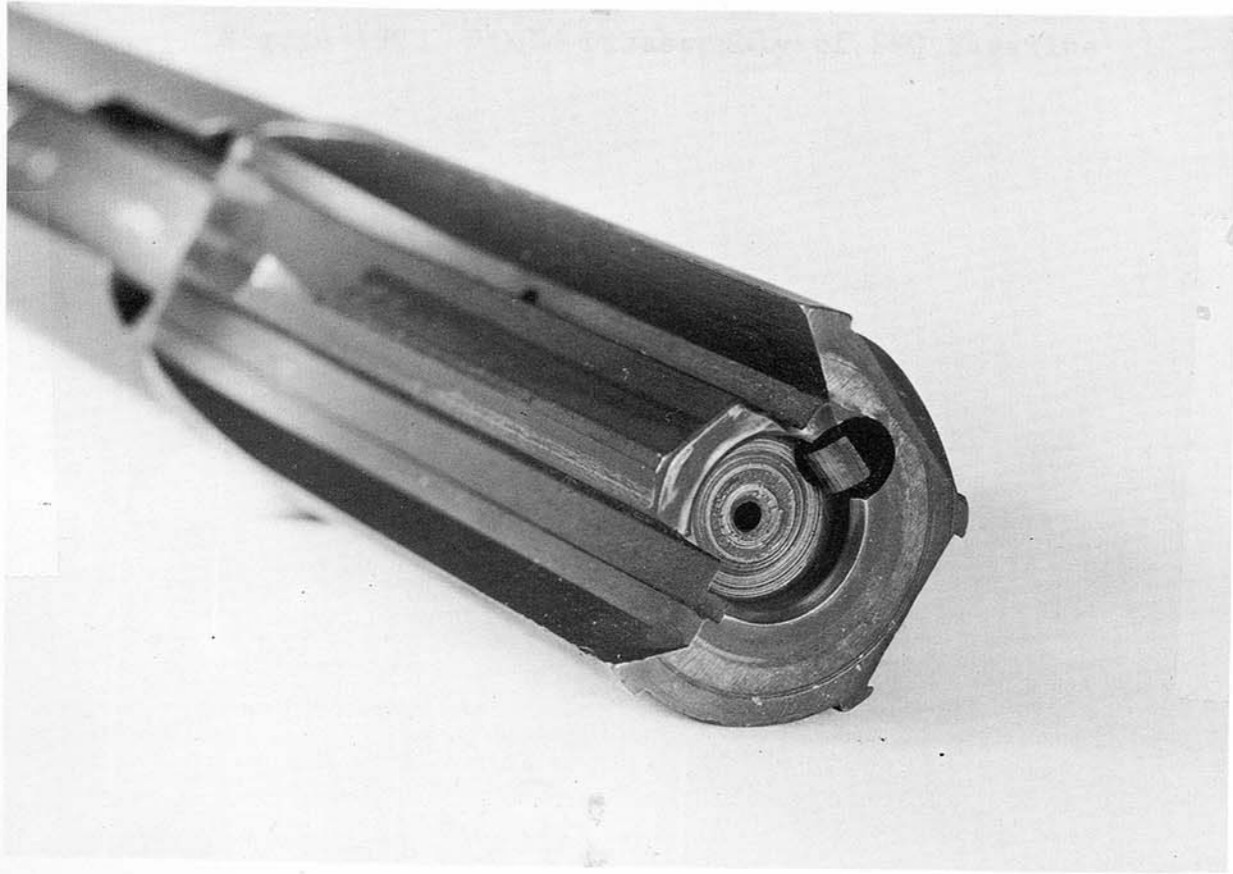

Figure 21. Bolt - Showing face firing pin hole and extractor
- B. Brush off residue from the bolt carrier group, paying particular attention to the extractor, firing pin, firing pin spring and face of bolt. (Figure 21)